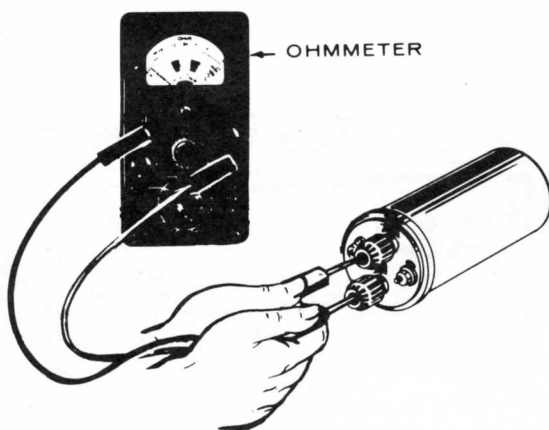

FIGURE 41. COIL TEST
3. Change resistance setting on ohmmeter. Place ohmmeter leads inside of spark plug cable holes (Figure 41). Secondary resistance should read 12,600 - 15,400 ohms.